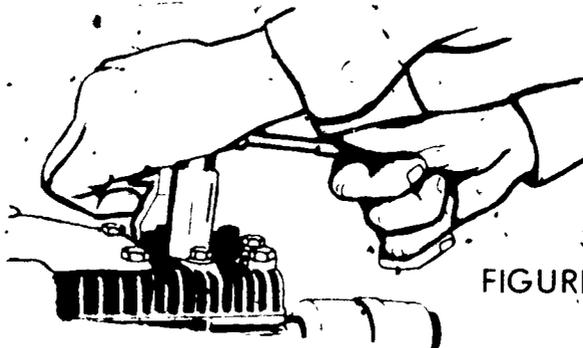

FIGURE 2
- C. Loosen the spark plug and remove (Figure 2)